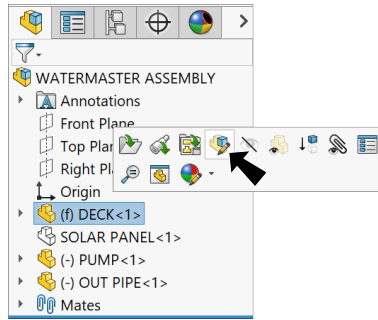

Fig. 50
Step 1. Click **Deck**  part in the Feature Manager and click **Edit Part**  on the context toolbar, **Fig. 50**.